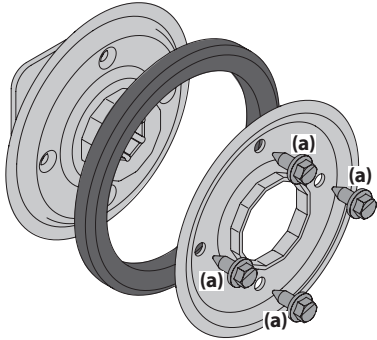

Figure 4-27
1. Remove four screws (a) which secure friction wheel's side plates together. See Figure 4-27.